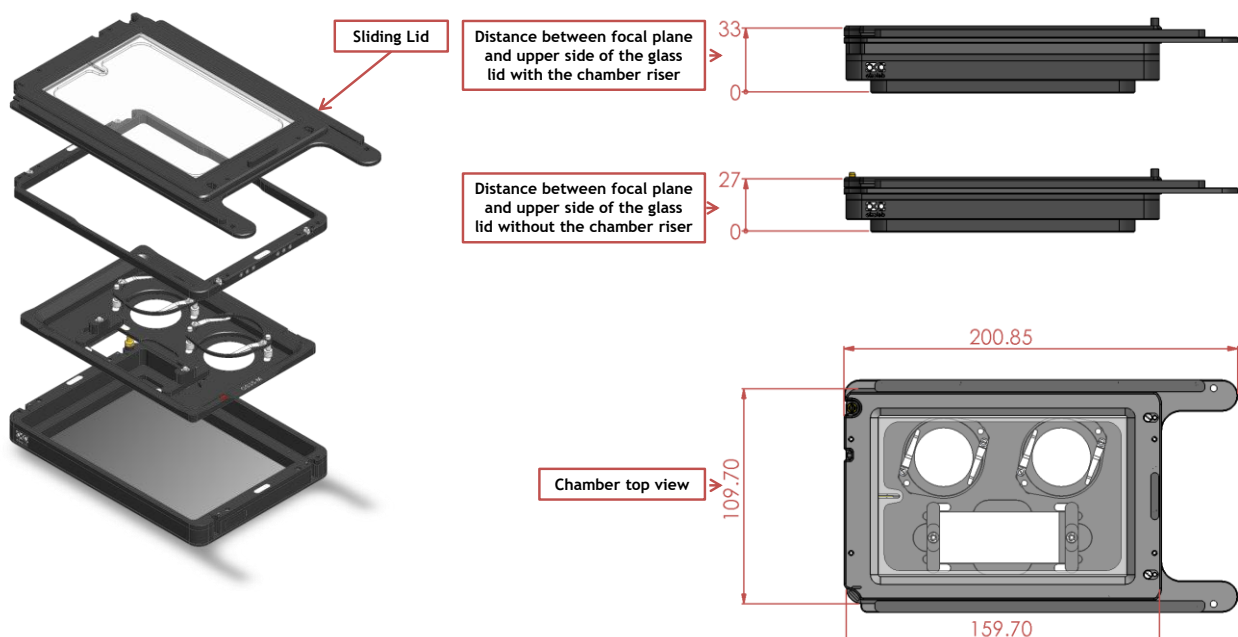
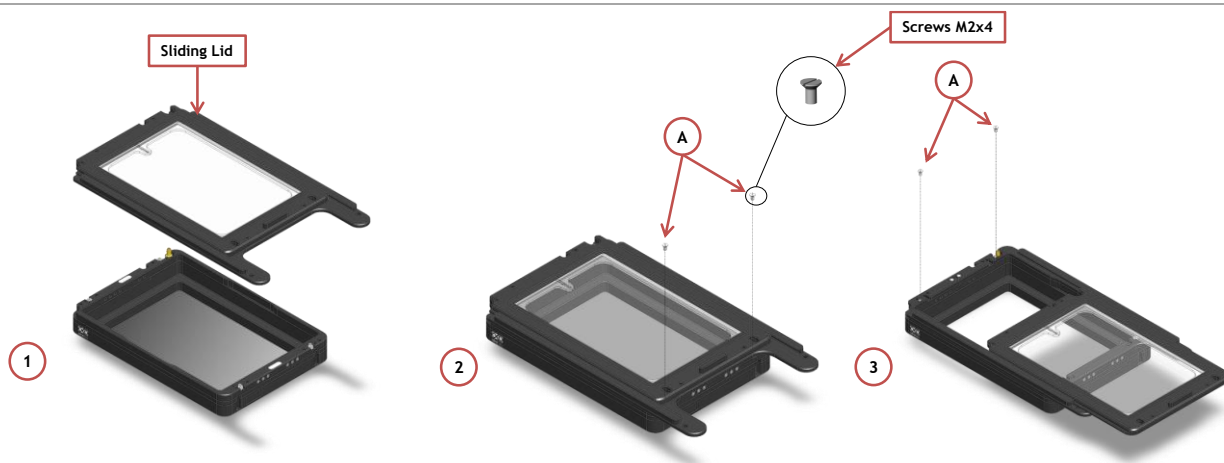

Figure 3. H301-PRIOR H117 (Sliding Lid comes as standard)
Figure 4. Assembly of the sliding lid
Figure 3 shows chamber dimensions with the Sliding Lid (with and without chamber riser). Figure 4 illustrates how to remove Sliding Lid, when a different Lid is necessary.
**NOTE: Sliding Lid MUST BE REMOVED when using any other Lid.** The Sliding Lid is fixed onto the chamber with 4 screws. Screws location is indicated by letter A in Figure 4 (image 2 and 3). Keep Sliding Lid fully closed to access screws labeled A in image 2. Open Sliding Lid to access screws labeled A in image 3.